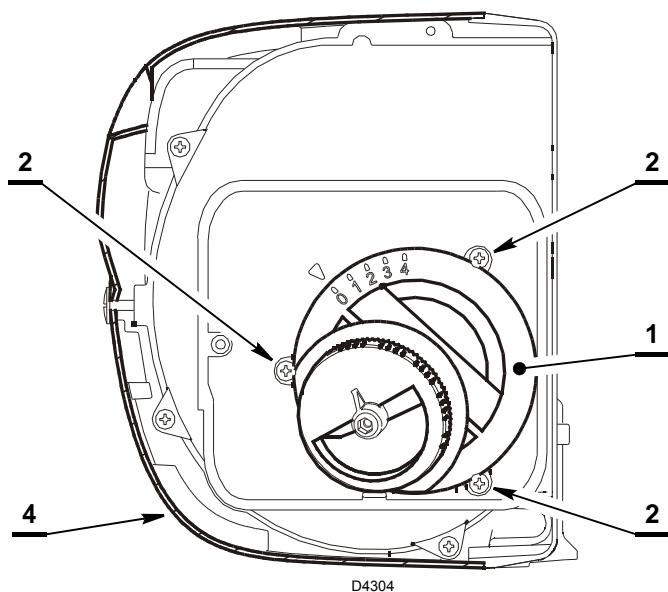

Fig. 23
- Remove the cover 4) (Fig. 23) and undo the fixing nuts to the flange and remove the burner.
- Loosen the three screws 2) Fig. 23) and remove the air regulation unit 1).